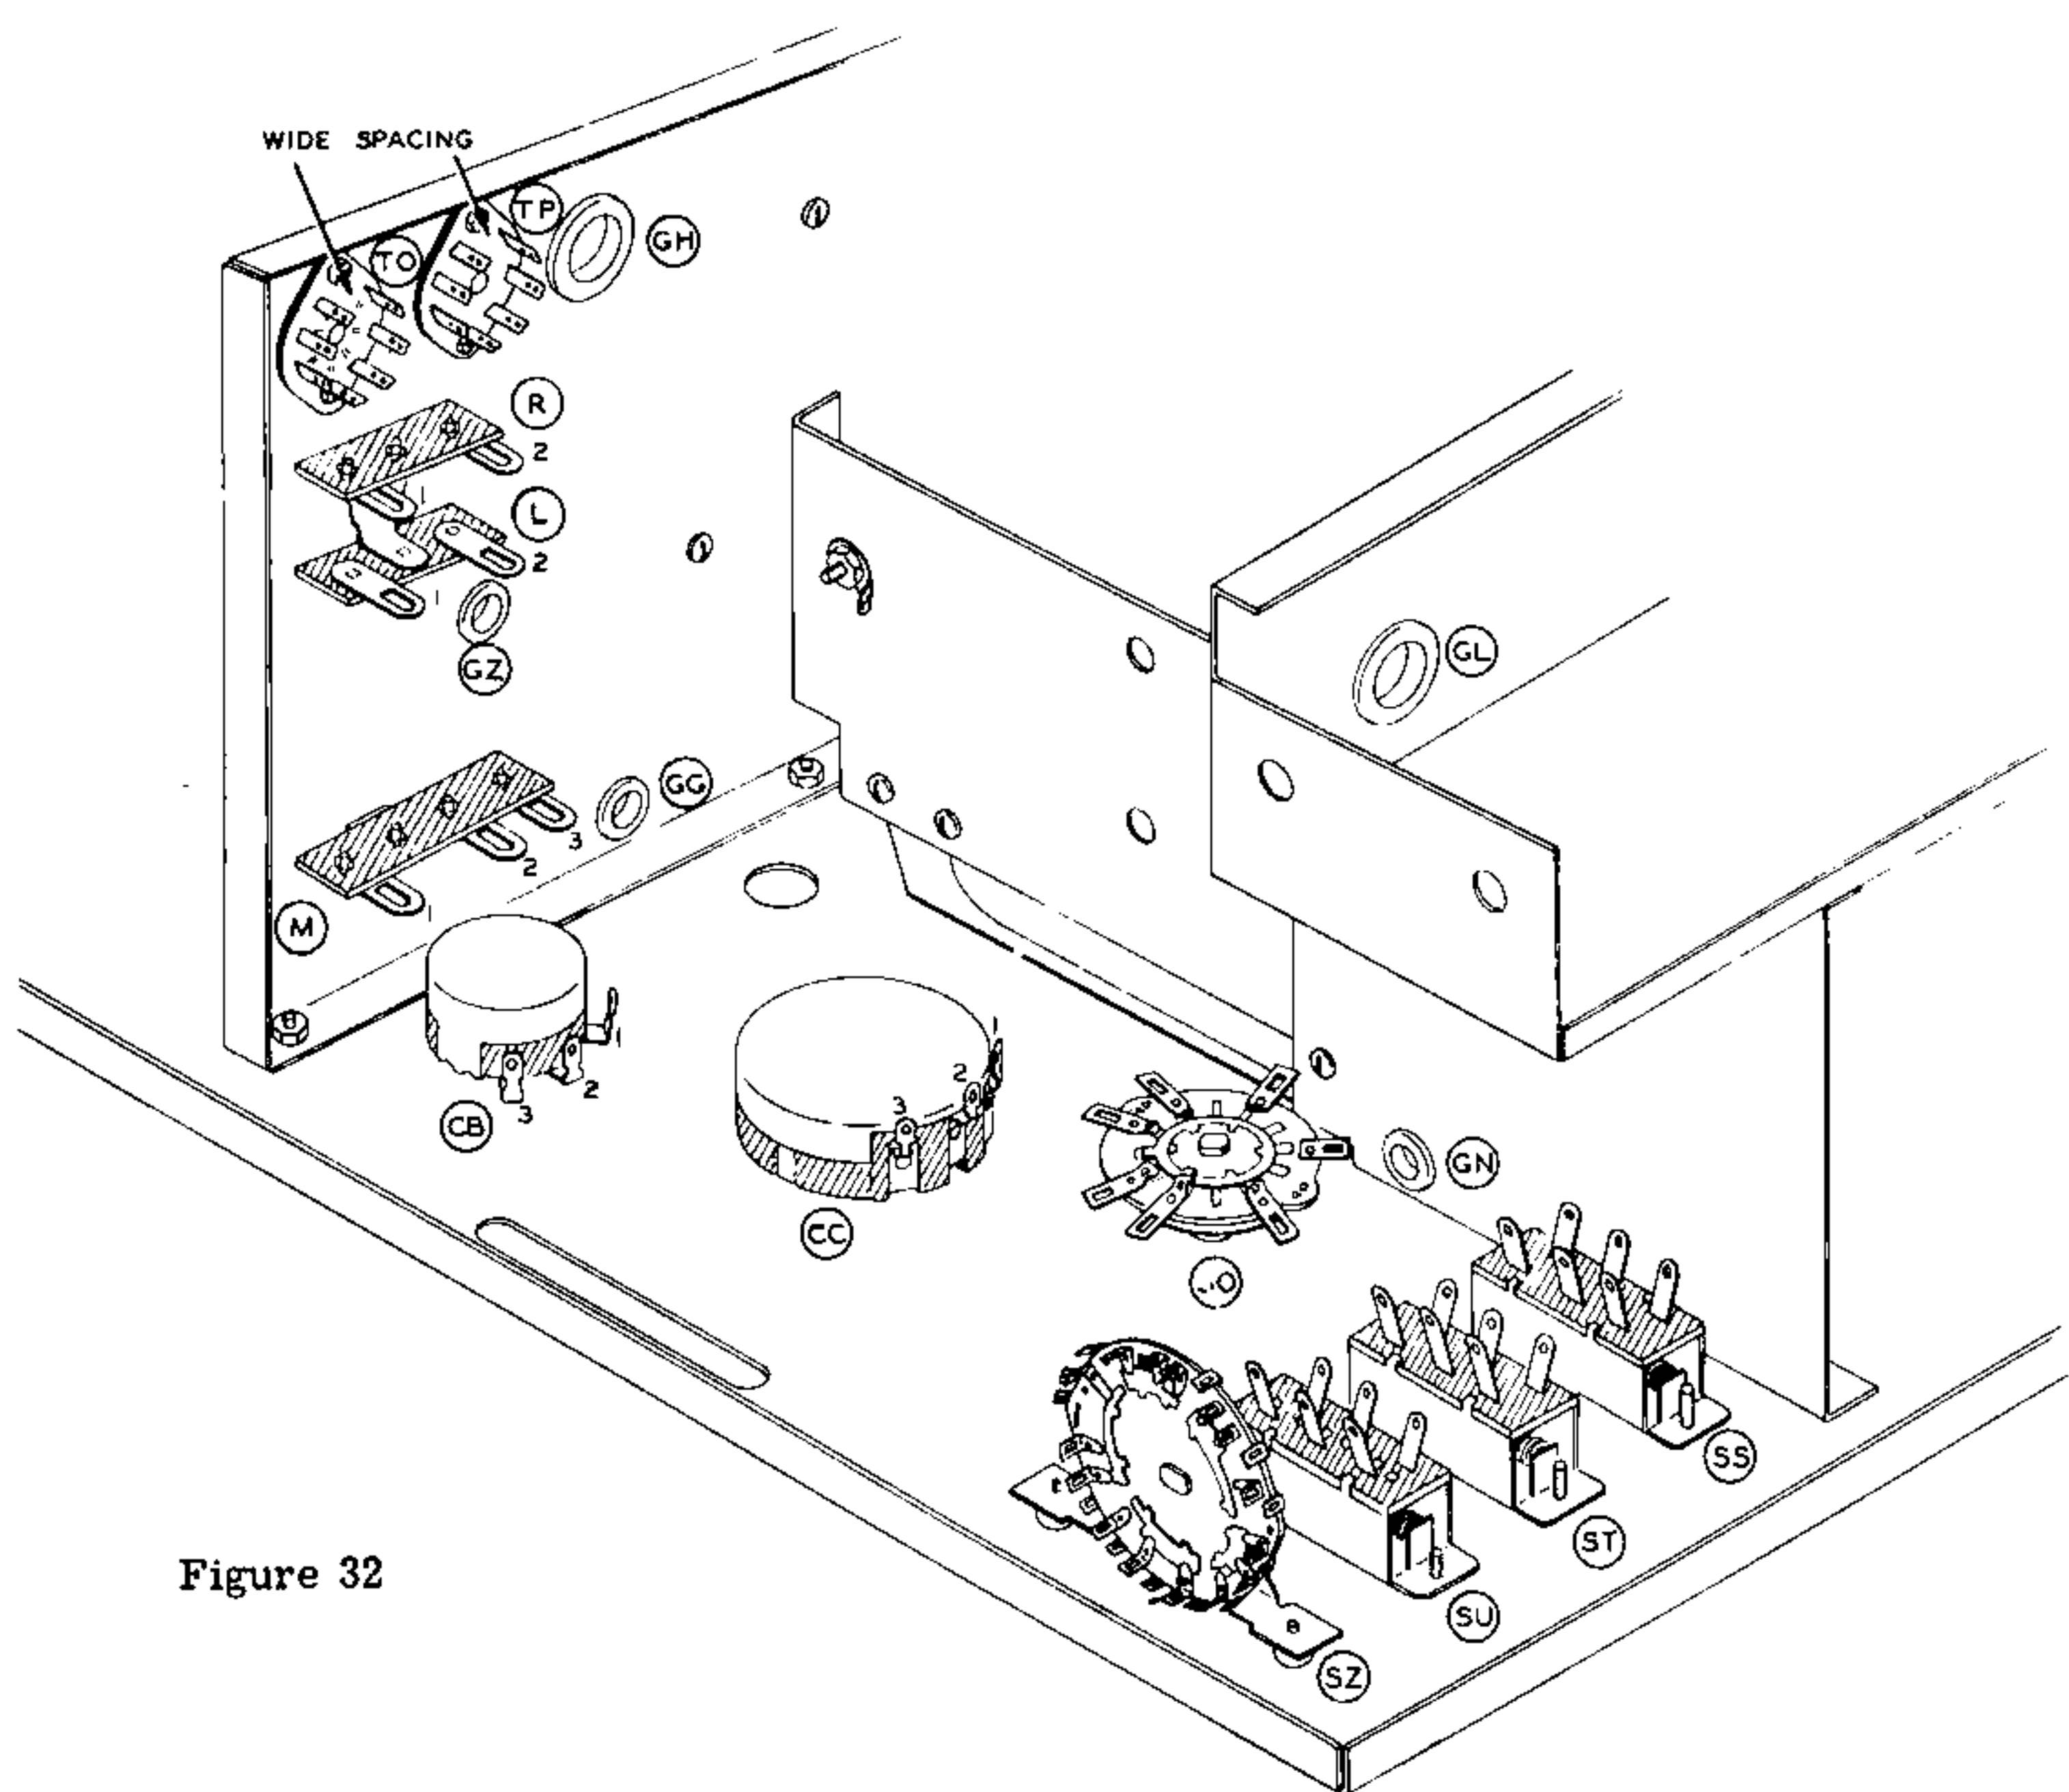
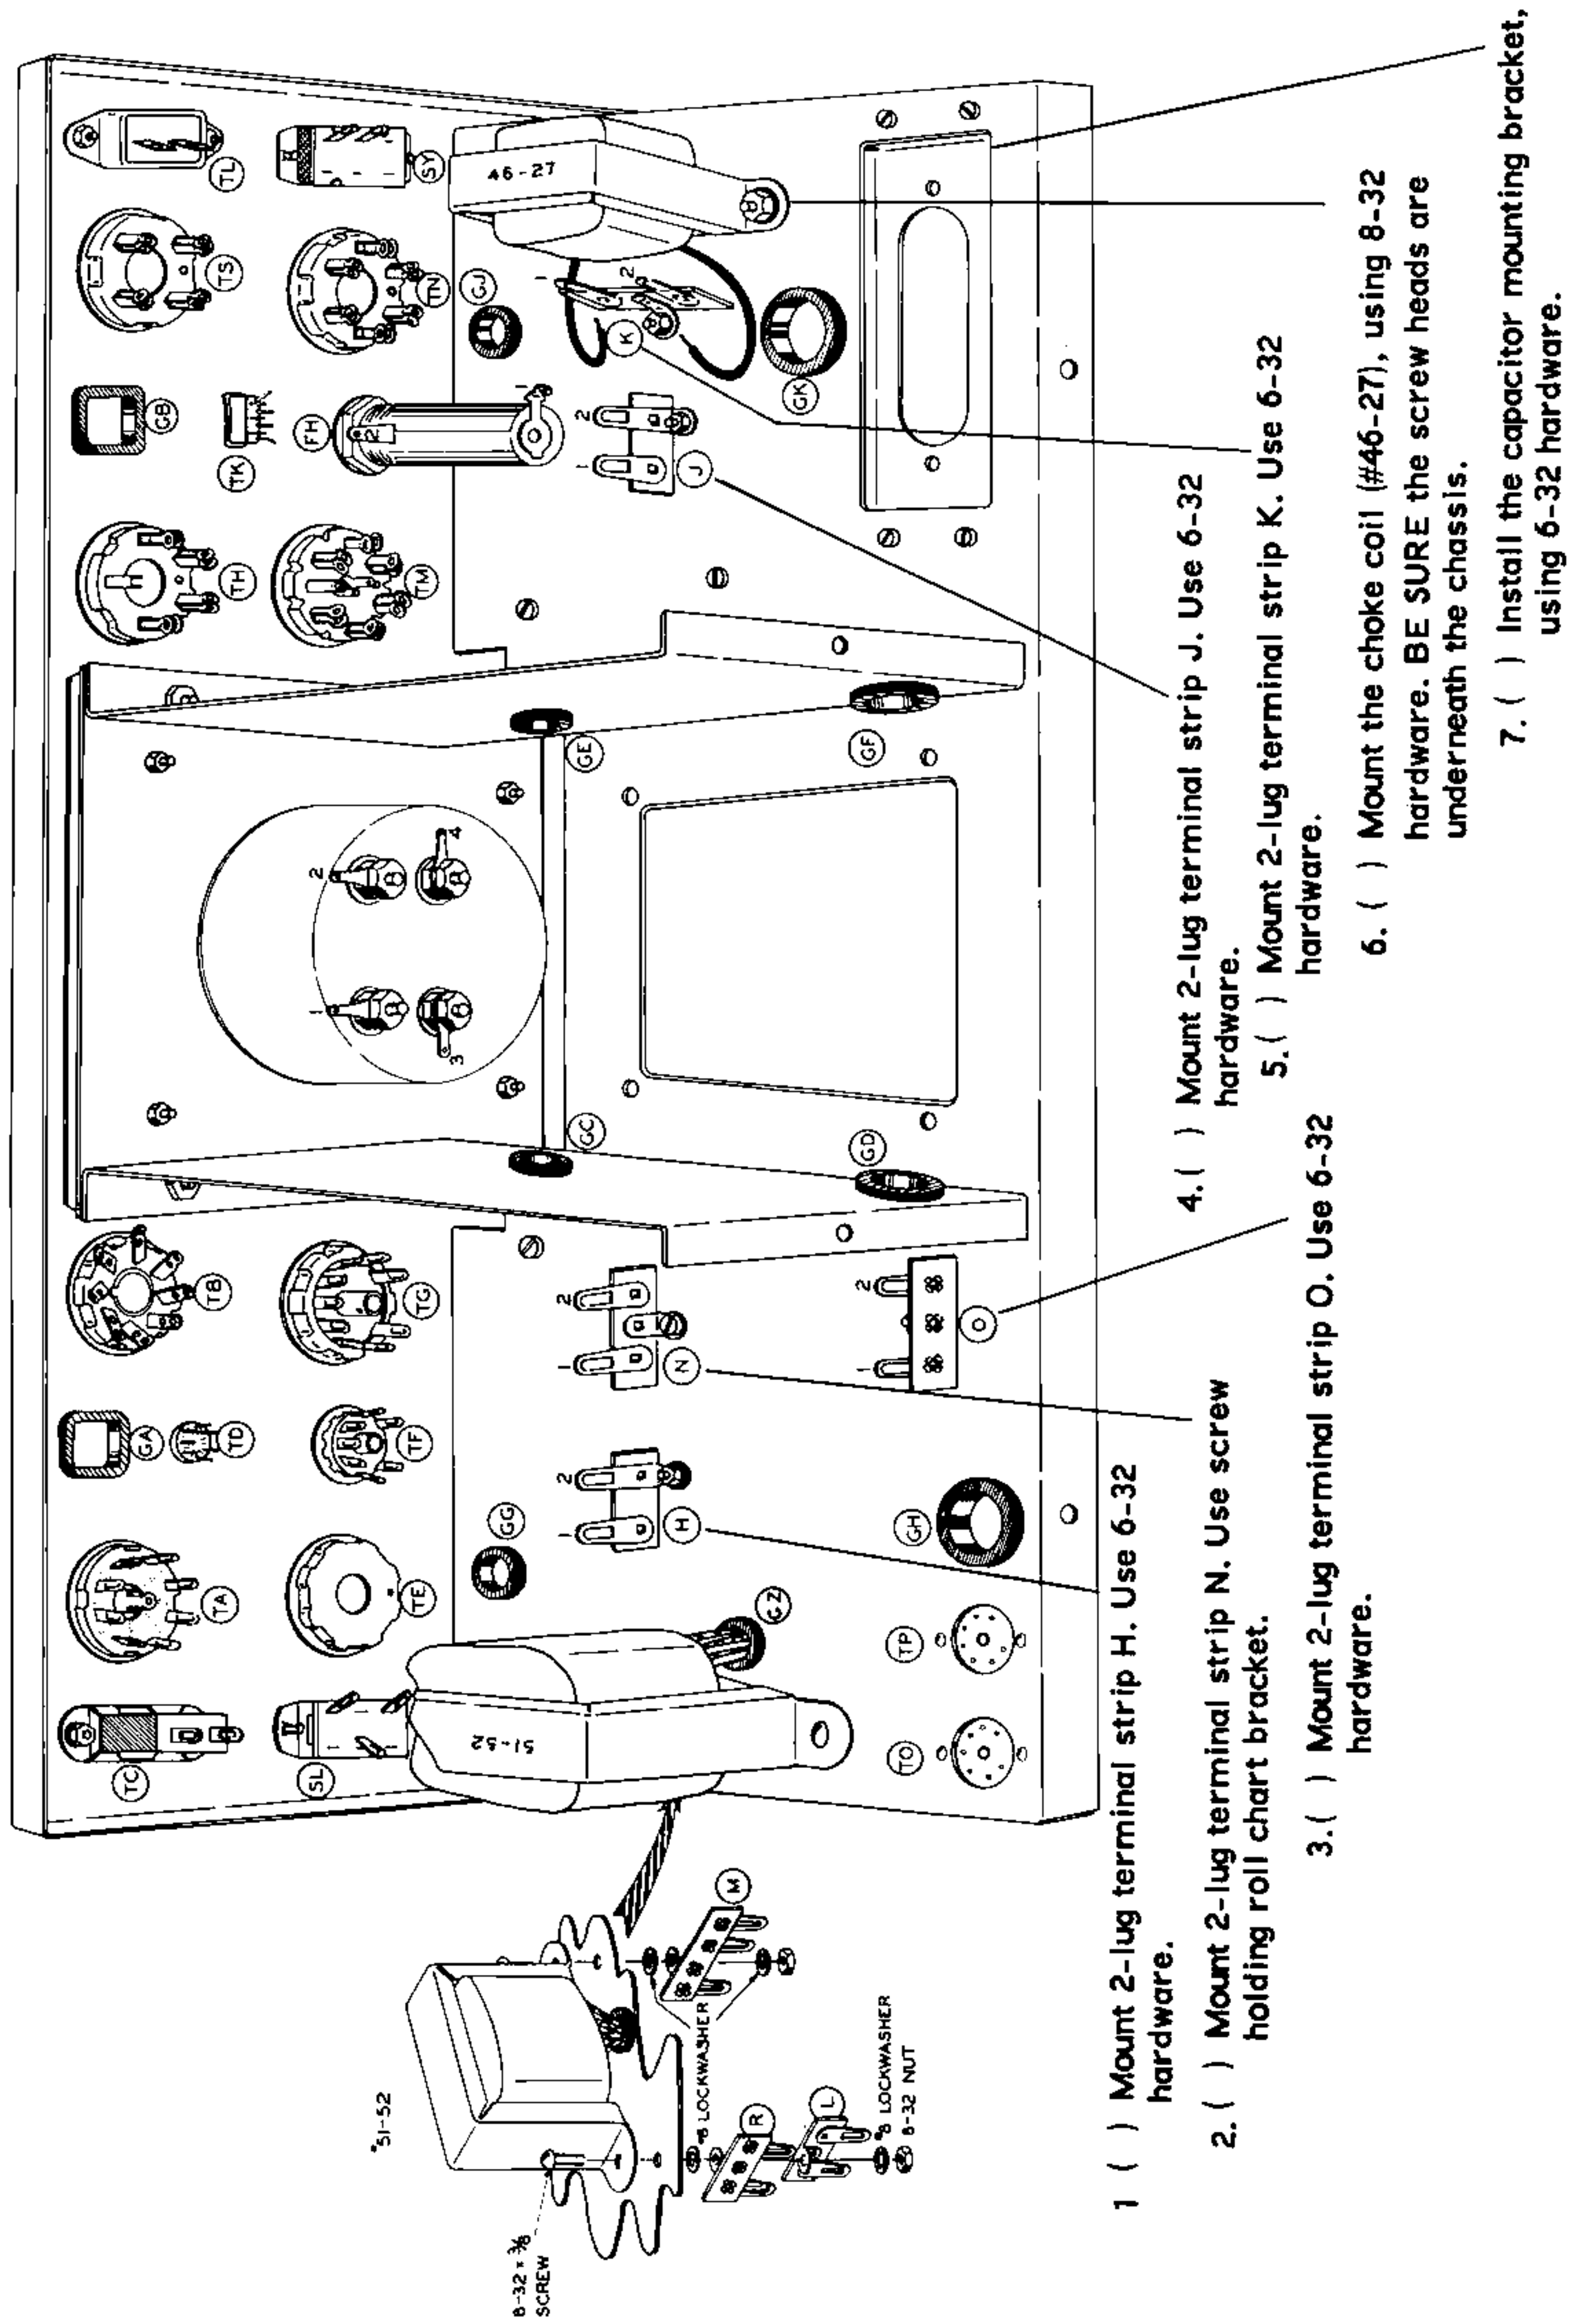

Figure 32
Figure 33
- ( ) Connect a 250  $\Omega$  1% resistor from SO10 (NS) to SO12 (NS).
- ( ) Connect a 250  $\Omega$  1% resistor from SO12 (S-2) to SO3 (NS).
- ( ) Connect a 500  $\Omega$  1% resistor from SO3 (S-2) to SO6 (NS).
- ( ) Connect a 1 K $\Omega$  1% resistor from SO6 (S-2) to SO1 (NS).
- ( ) Connect a 4.7 K $\Omega$  resistor (yellow-violet-red) from SO1 (S-2) to SO8 (NS).
- ( ) Mount the SIGNAL switch SO as shown in Figure 32, using control hardware.
Follow the steps outlined in Figure 33 for the mounting of those parts located on the chassis. Also, refer to Figure 32.